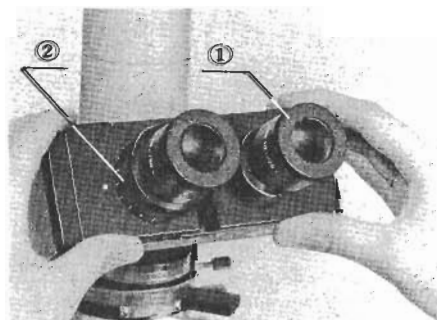

Fig. 8
- 2) Looking through the both eyepieces with both eyes, adjust the interpupillary distance, sliding the knurled dovetail slides of the right and left eyepiece tubes, until perfect binocular vision is obtained. (Fig. 8)
- 3) Looking through the right eyepiece (with cross hairs or micrometer) with your right eye, rotate the upper helicoid ring ① of the eyepiece until the cross hairs (or micrometer) are sharply focused. (Fig. 8)
- 5) Now look at the image through the left eyepiece with your left eye and rotate the diopter adjustment ring ② to focus on the specimen without using the coarse and fine adjustment knobs. (Fig. 8)